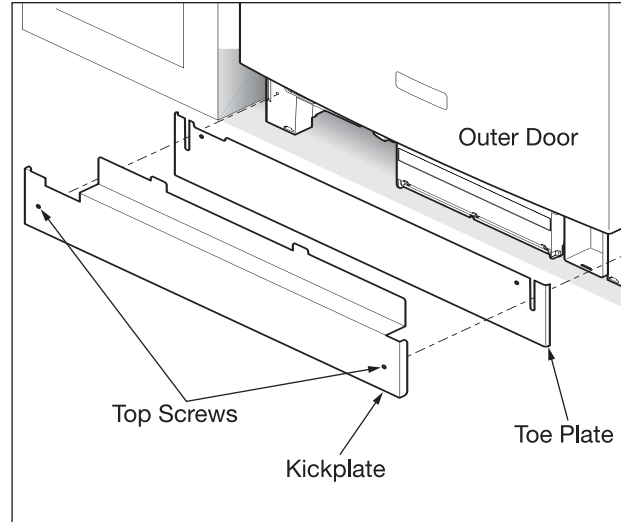

Figure 5-1. Kickplate and Toeplate Removal
1. Remove two (2) screws at front of the kickplate assembly using a #2 Phillips screw driver. (See Figure 5-1)